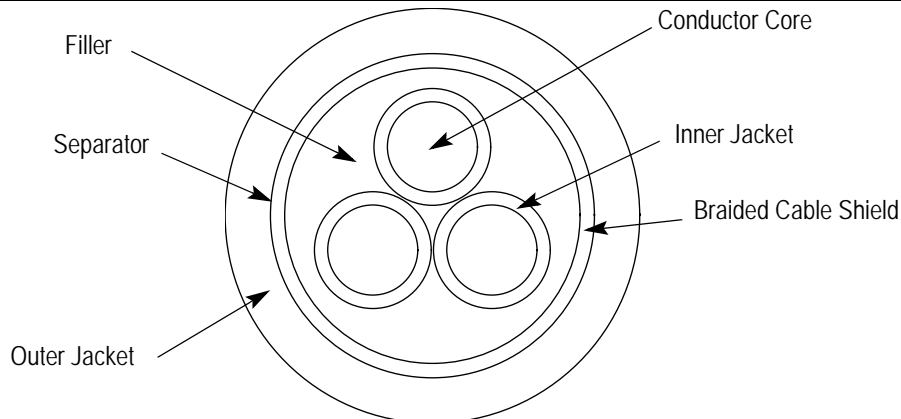

Figure 2
### 2.5. Cable and Subcomponent Specification (Figure 2)
*Refer to Figure 2 for the various components of the cable as shown in an end view of the cable.*